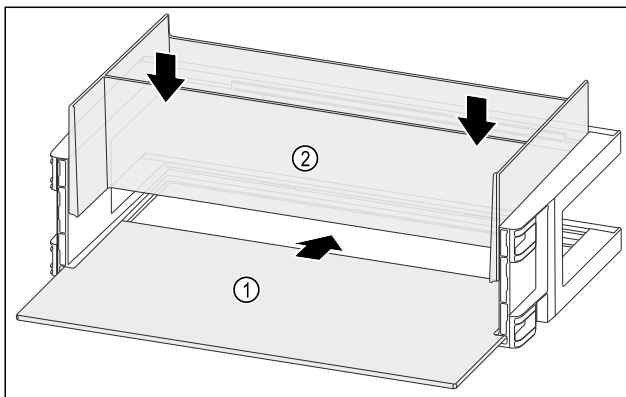

Fig. 138
- Push the shelf Fig. 138 (1) into the side recesses.
- Insert the organiser Fig. 138 (2).